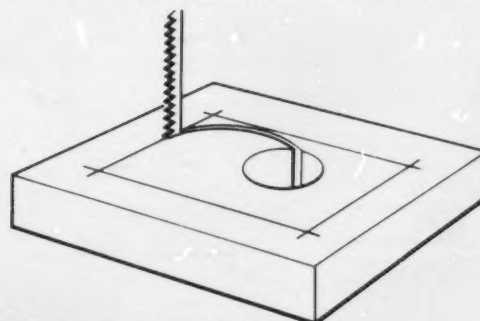

Figure 16-3 Making an inside cut
3. Cut on the waste side of the line as shown in *Figure 16-3*.